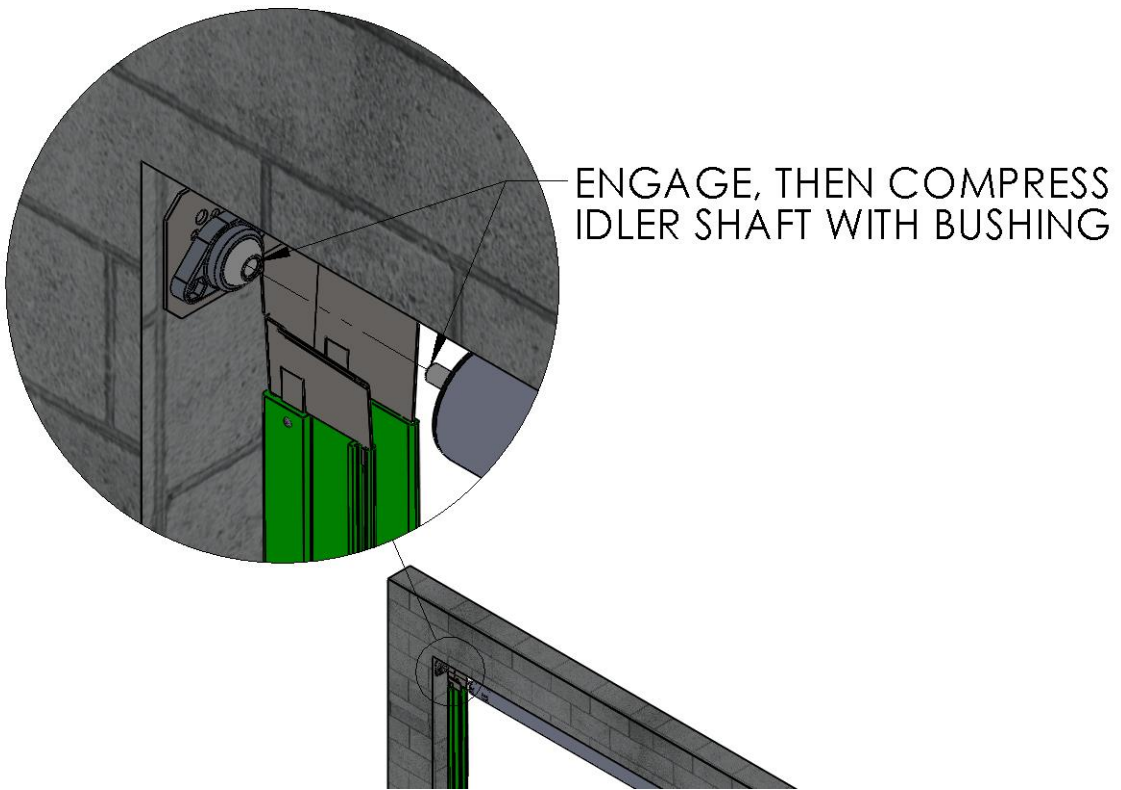

Figure 6 INSTALL L.H. SIDE OF HEADER ASSEMBLY
1. Using two (2) people, and two ladders at minimum, raise the Header Assembly, and insert the Idler Shaft into the installed Idler Bearing Assembly at upper left. (Figure 6 INSTALL L.H. SIDE OF HEADER ASSEMBLY)